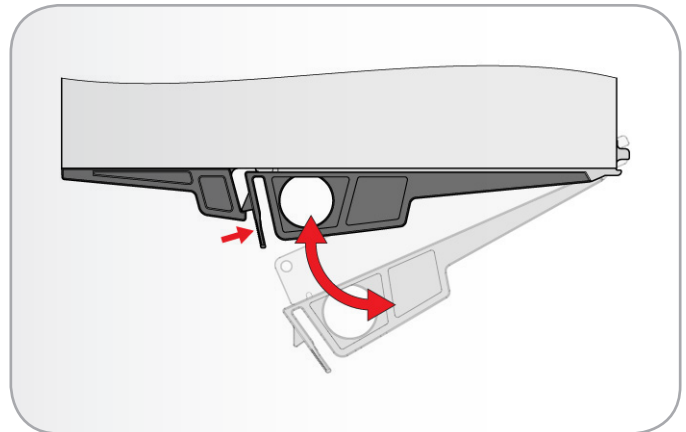

Fig. 77 - Releasing/Securing the Module Handle Latch
2. Pull the latch outward to eject the module from the enclosure (*Fig. 77*).
3. Secure the module by closing the latch. A click should be heard as the latch locks into position (*Fig. 77*).